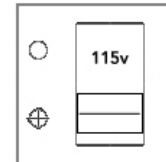

Figure 1
- Check that the proper voltage is selected on the back of the power supply for your country (i.e. 115V for U.S. and Japan, 230V for Europe) (Figure 1): Refer to "Power Requirement" section for more information.